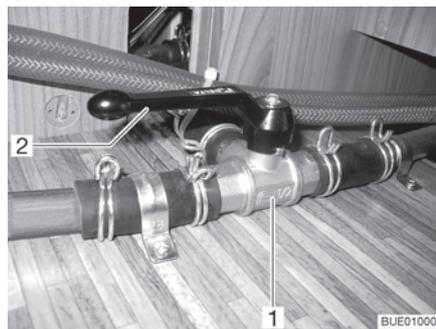

Fig. 159 3-way valve
- Set the lever (Fig. 159,2) of the 3-way valve (Fig. 159,1) parallel to the straight flow direction (Fig. 159).
- Set the lever (Fig. 159,2) of the 3-way valve (Fig. 159,1) transverse to the straight flow direction.